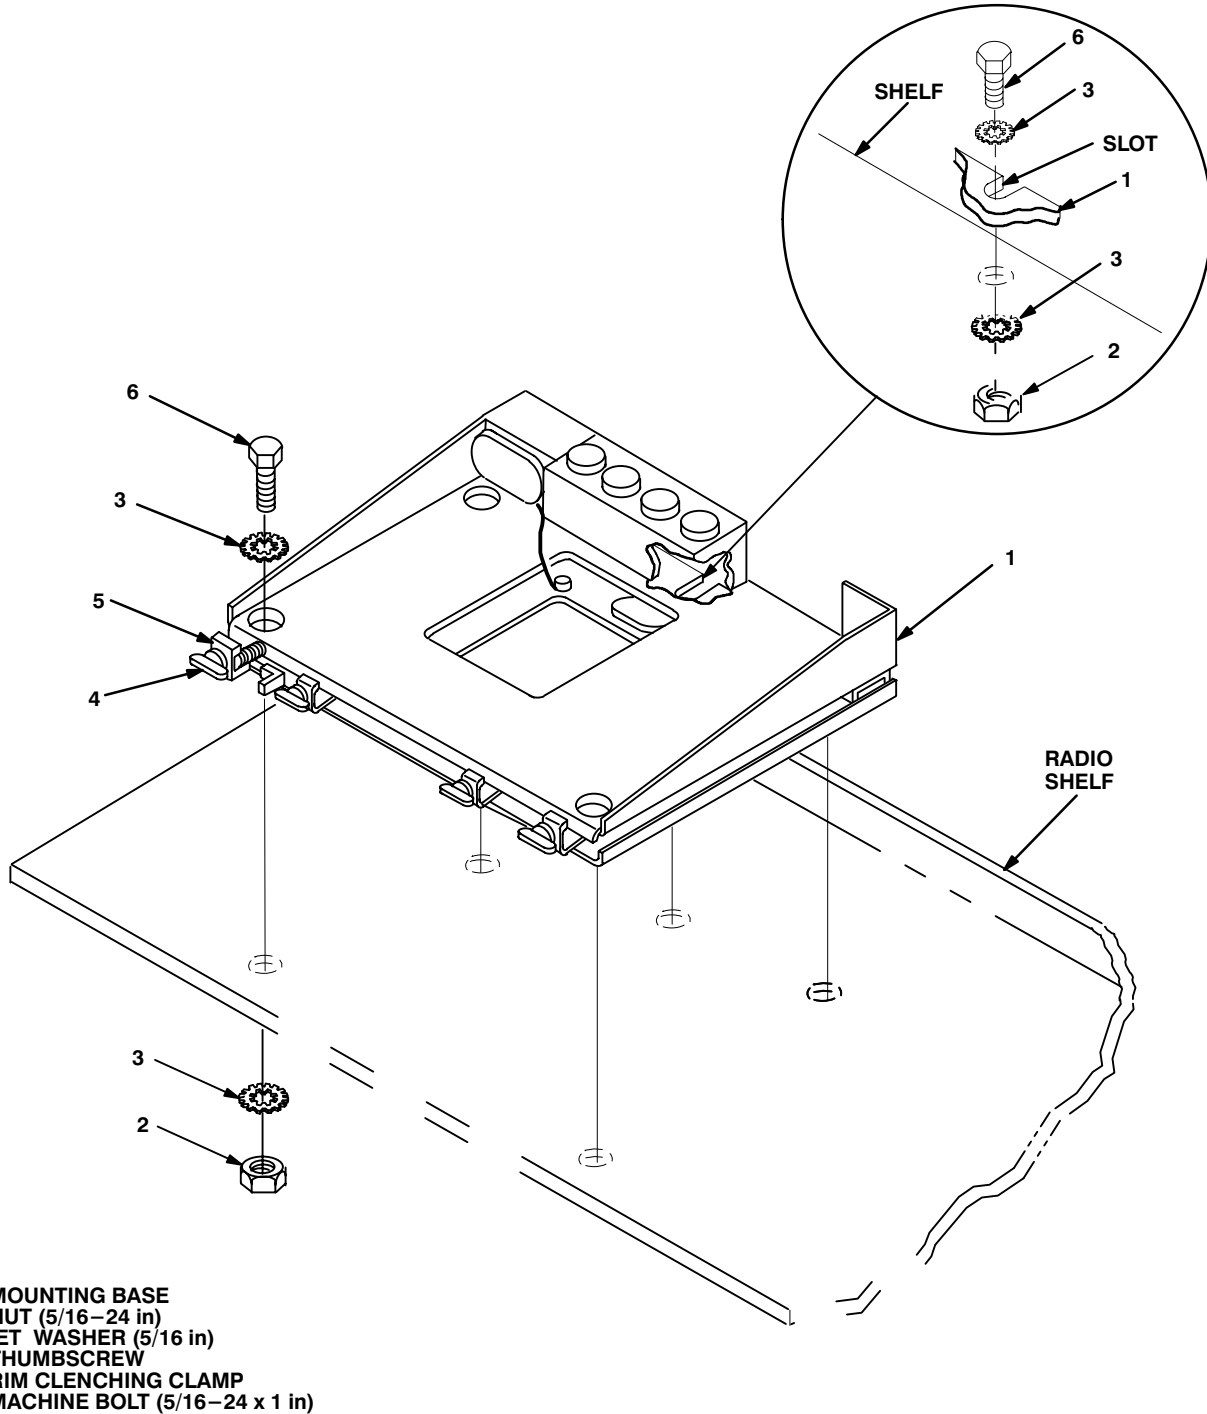

Figure 5-4. Mounting Base Installation: Radio Shelf
**5.2 Installation of Mounting Base, Electrical Equipment MT-6352/VRC (mounting base).** Remove and retain attaching bag of 5/16 in mounting hardware for installation. To insure good electrical grounding, any rust, corrosion or paint around mounting holes in equipment shelf should be removed before installing mounting base. See figure 5-4 and perform steps.